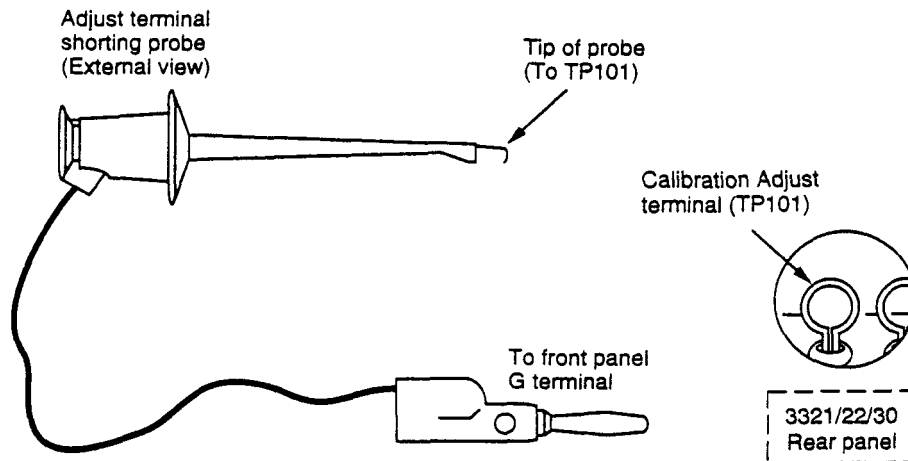

Figure 2. Shorting the calibration adjust terminal
- C. Connect one end of the Adjust terminal shorting probe to the front panel G terminal, as shown in Figure 2.
2. Connect a clip lead or probe between TP101 and the front panel G terminal as shown in Figure 2.